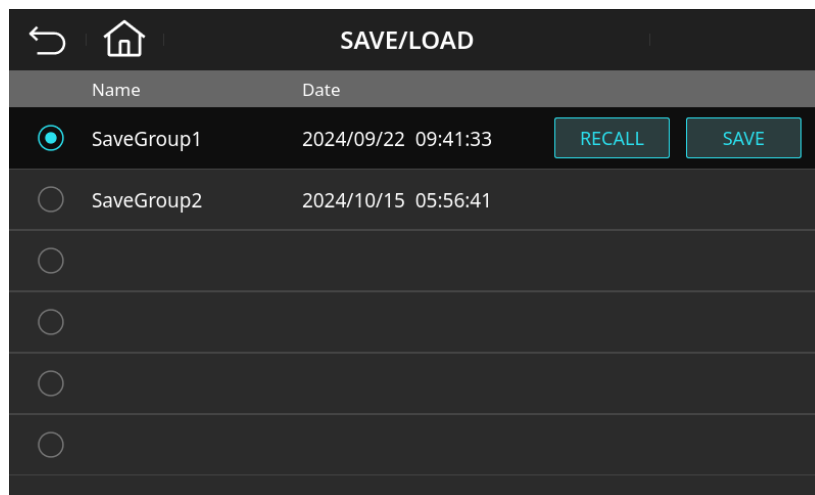

Figure 4-52 System-Wide Parameter Save/Load Page
2. Press , then on the SAVE screen, select . The system will store the current system-wide parameters into memory SaveGroup1, as shown in Figure 4-52.